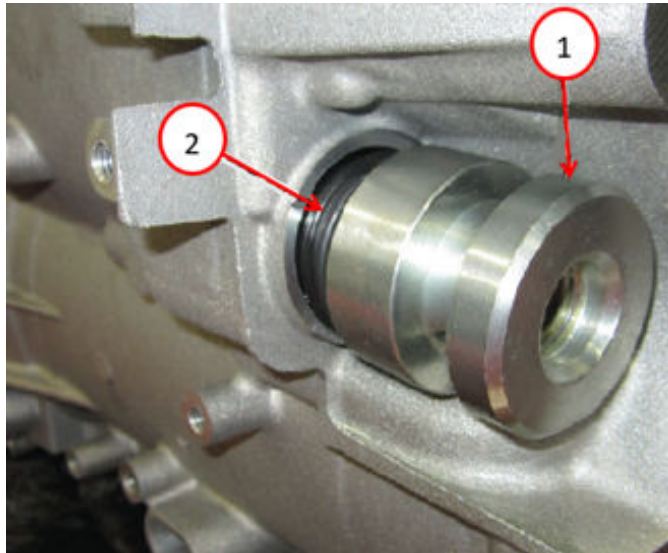

Fig. 43
65. Latch the electrical connector lock by pushing down Fig. 43.